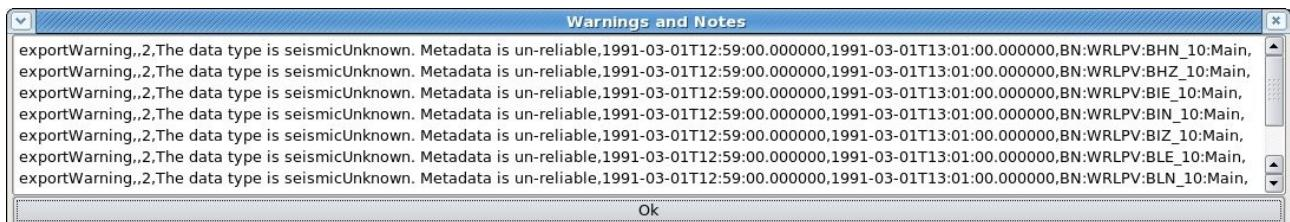

Figure 2: Export warning window showing warning of missing metadata for channels of station WRLPV (for which we lack definitive metadata).
10. The file is then saved, and if the timespan includes missing blocks, or there are other data warnings associated with these data, they will be displayed in a pop-up window after the file has been saved (Figure 2).